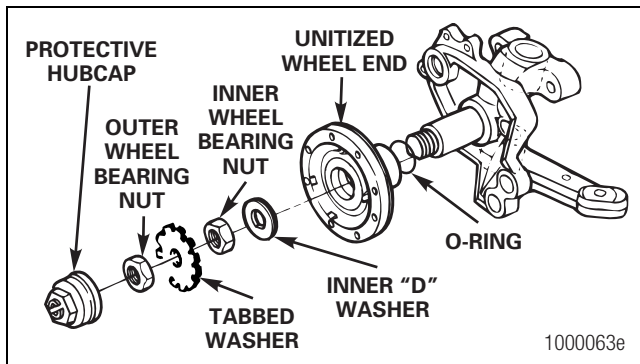

Figure 4.3
- A. For threaded hubcaps, use the correct size socket to turn the hubcap COUNTERCLOCKWISE. Figure 4.3.
8. Remove the unitized wheel end **STRAIGHT** from the spindle. Figure 4.3.